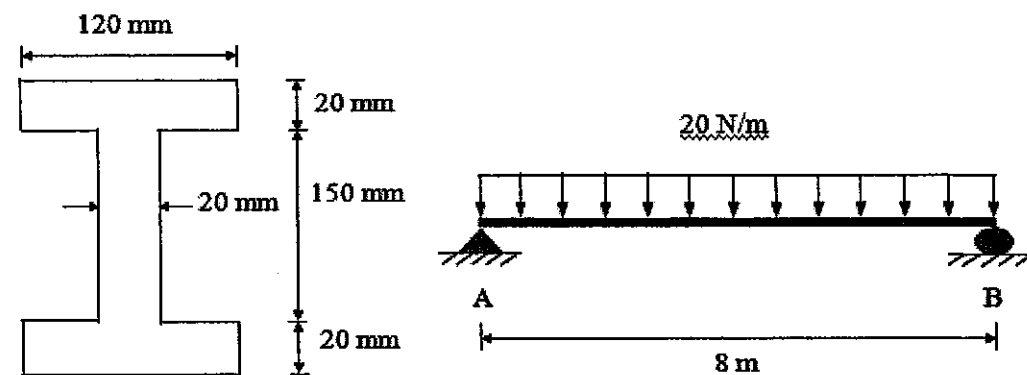

Figure B1/ Rajah B1
A symmetrical I-section beam as shown in **Figure B1** is carrying a uniformly distributed load of 20 N/m along the span.
- (c) Based on **Figure B1**: